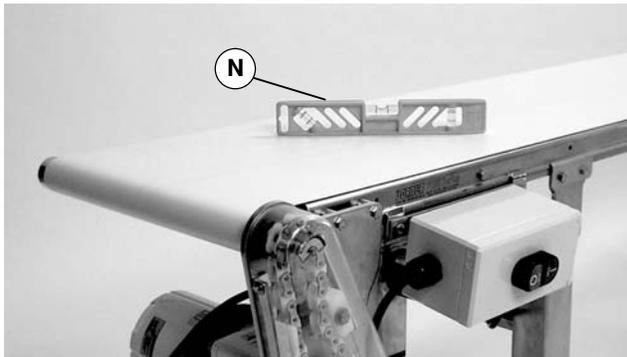

Figure 4
**NOTE:** Conveyor MUST be mounted straight, flat, and level within confines of conveyor. Use a level (N of Figure 4) during setup.